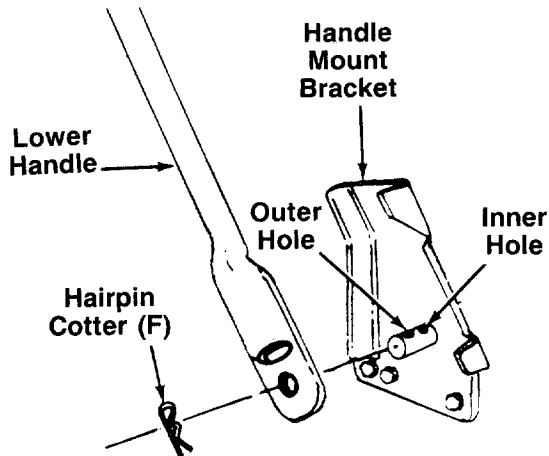

FIGURE 2.
- A (1) Rope Guide Bolt
- B (1) Curved Head Carriage Bolt
- C (2) Lock Washers 5/16" I.D.
- D (2) Hex Nuts 5/16-18 Thread
- E (3) Cable Ties
- F (2) Hairpin Cotter
- G (1) Plastic Plug (May Be Already Assembled)
- I (1) Cable Clamp (Not Shown)
3. Attach the lower handle by placing the bottom holes in the lower handle over the weld pins on the handle mount brackets. Make certain the instruction label on the lower handle can be read from the operating position. Secure with hairpin cotter (F) in inner holes on weld pins. See figure 2.